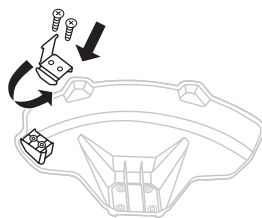

Fig. 1C
4. Re-assemble both screws in the blade (Fig. 1C). Ensure all four bolts are securely tightened.